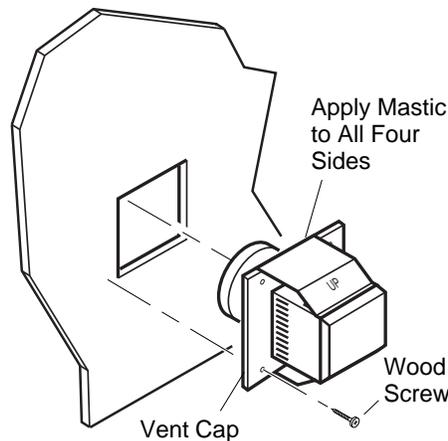

Figure 23 - Installing Horizontal Vent Cap
- Apply a bead of non-hardening mastic around the outside edge of the vent cap. Position the vent cap in the center of the 7 1/2" or 10" hole on the exterior wall with the word "up" on the vent cap facing up. Insure proper clearance of 1" to combustibles is maintained. Attach the vent cap with four wood screws supplied (see Figure 23). **Note:** Replace the wood screws with appropriate fasteners for stucco, brick, concrete, or other types of siding.